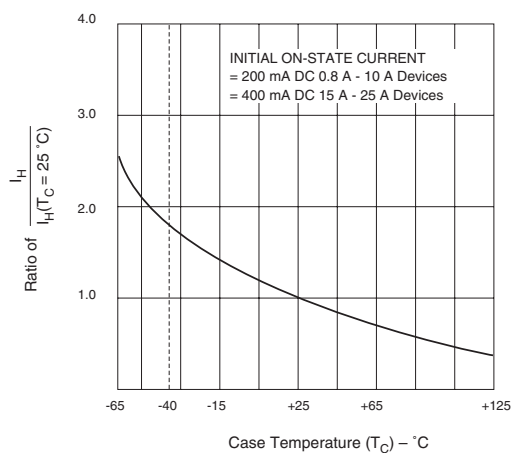

Figure E2.14 Normalized DC Holding Current versus Case Temperature
- (8) See Figure E2.14 for I_H versus T_C .